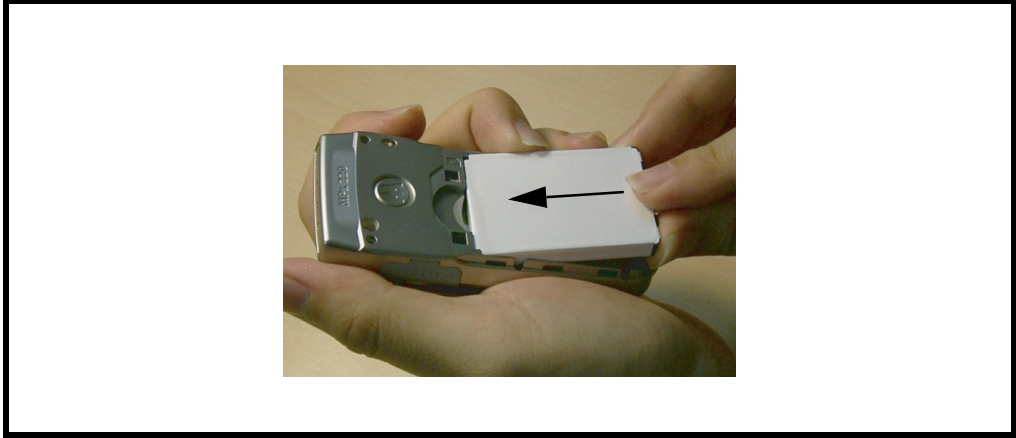

Figure 7. Replacing the Battery
3. To replace, align the tabs on the battery door with the grooves on the phone. Slide the battery door left until it locks into place as shown in Figure 7.
3. To replace, insert the battery with the metal contacts on the top end in alignment with the ones on the battery compartment as shown in Figure 7. Then push the bottom end down into the battery compartment so that the battery locks into place.